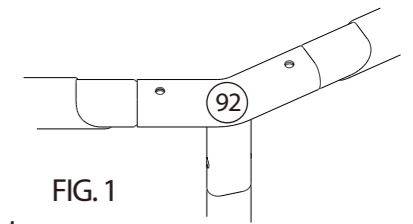

FIG. 1
- B. Locate the metal pipe and Tee Fittings for the frame section of the pool. The shorter pipe sections with the larger diameter and the pair of holes at both ends are the Horizontal Beams (91). The longer pipe sections with the smaller diameter and the Spring Pin (95) at one end are the Vertical Legs (94). Take the Horizontal Beams (91) and insert them into the pockets stitched along the top edge of the pool wall. Rotate it in the pocket so that the holes are on the top and bottom of the pipe protruding from each end of the pockets. Take one end of the pipe and insert it into a Tee Fitting aligning the holes with the holes in the Horizontal Beam. Do NOT install any of the Pins (93) at this time. Continue around the pool in either direction installing all of the Tee Fittings onto the Horizontal Beams. See Fig 1.